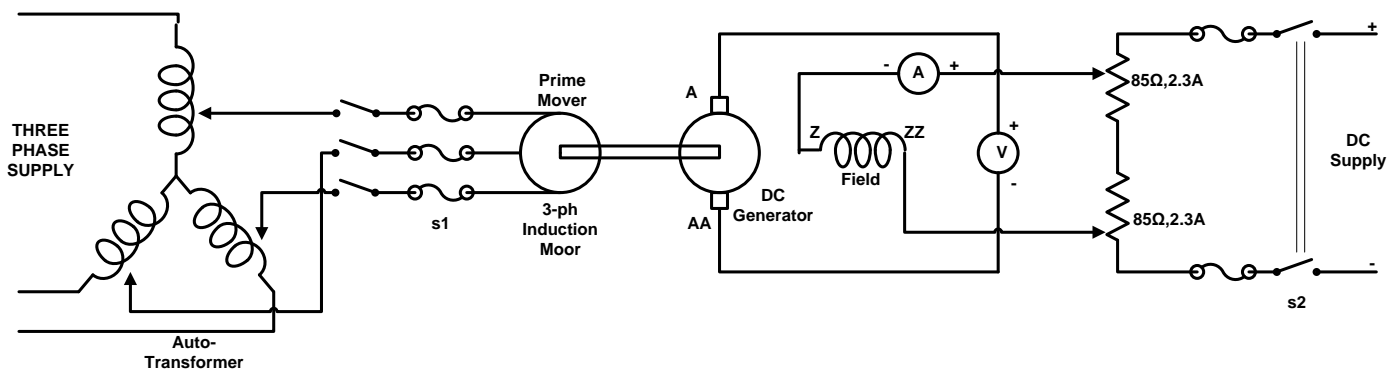

Figure 1: No load test on DC Shunt generator
- 1) Connect the circuit as shown in figure 1 with switches  $S_1$  and  $S_2$  open. Ensure that the DC supply is not short-circuited while connecting the rheostat to DC supply.
- 4) Start from zero excitation and gradually increase the excitation. Note down the armature voltage ( $V_a$ ) and the field current ( $I_f$ ) at every step. Continue until the armature voltage reaches to maximum value as found in (3).